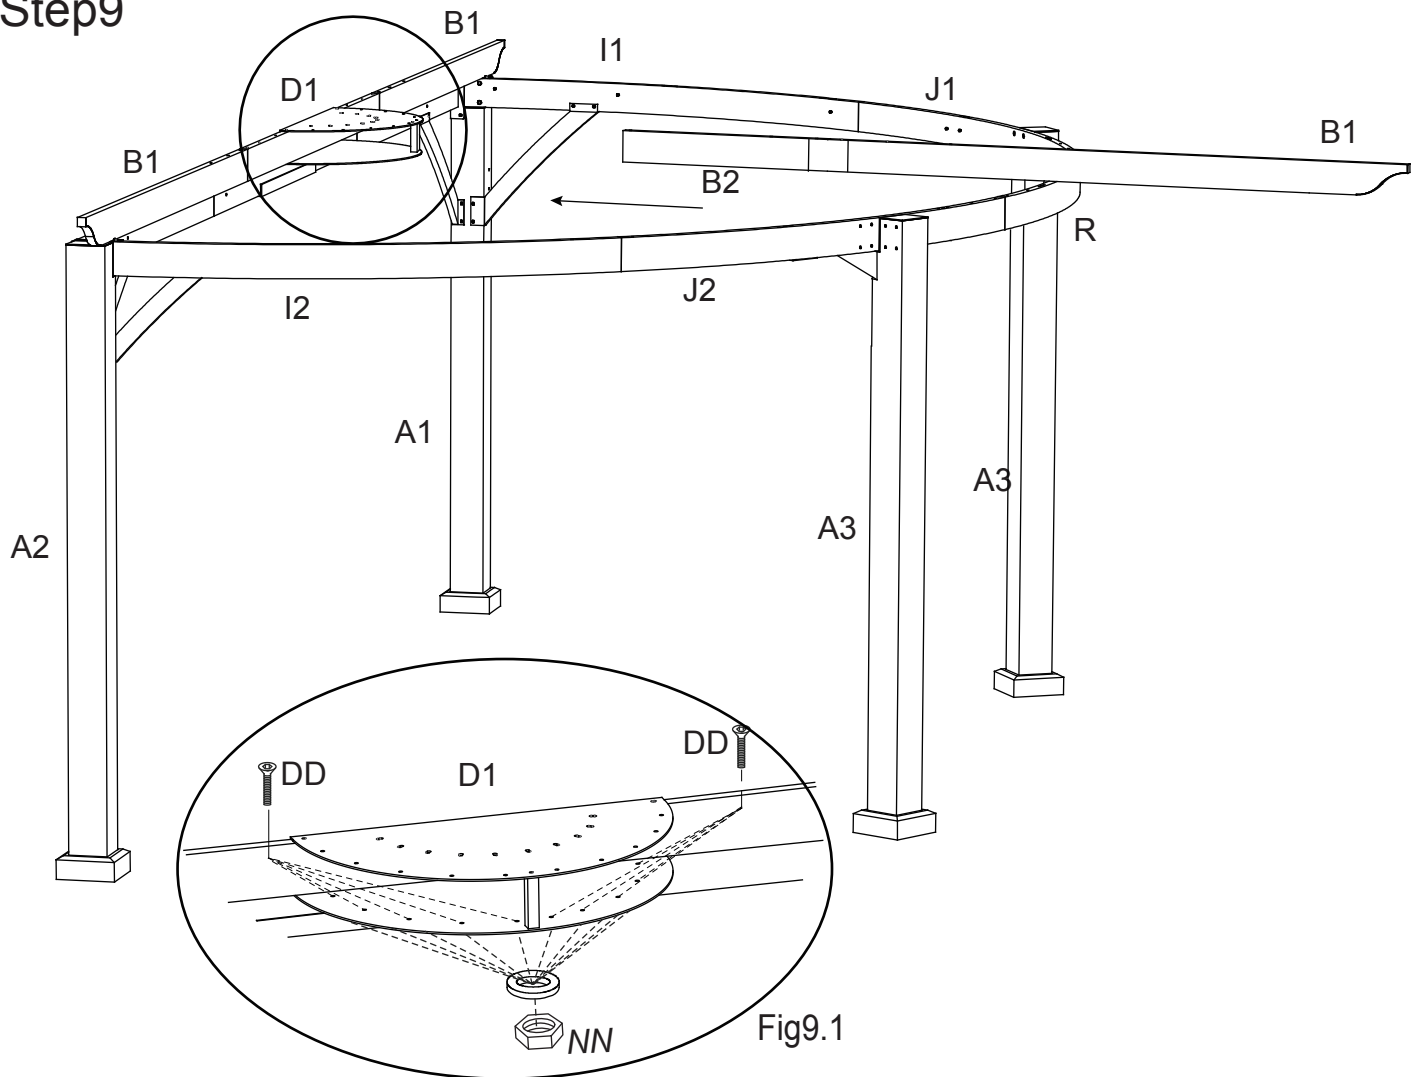

Fig9.1
9.1. Insert the bolt (DD) into the hole of the Center Connector (D1) with Nut (NN), See Fig 9.1,